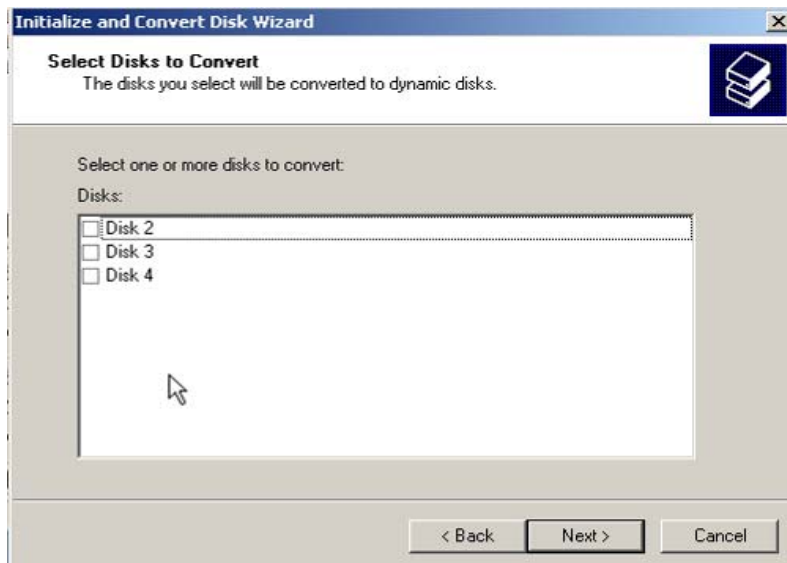

Figure 15
- Do not select any disk(s) on *Select Disk to Convert*, just click **Next**. (See Figure 15)